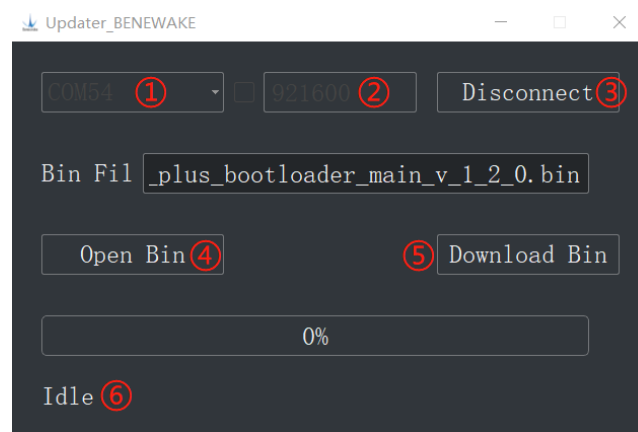

Figure 3: Firmware Upgrade PC software of TF02-Pro
③ Connection to the Test software and data output
④ Open the PC software and select “① TF02-Pro” and select automatically recognized occupied serial port (here it is “② COM9”), as shown in Figure 3.
- ⑤ Then click “CONNECT”. Upon successful connection, The continuous images of the output data will be displayed in area “④ TIME LINE CHART” on the right. Besides, the real-time data of the Current measure distance (Dist), effective data points per second (Effective Points) and signal strength (Strength) will be displayed in area “⑥ REAL TIME DATA” below.